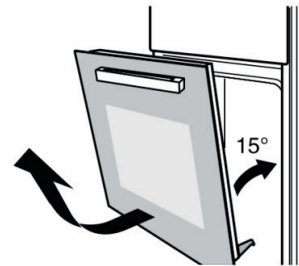

Figure 2
2. Close the oven door, at about 15 degree, then lift the door, and slowly pull out from the oven. (Figure 2)